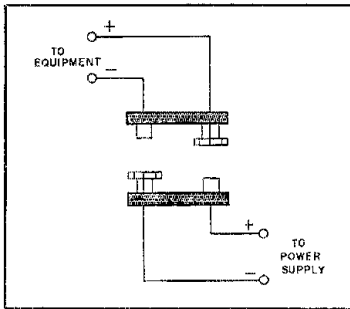

Fig. 3 — Tops from old 9-V transistor-radio batteries can be an inexpensive source of polarized power connectors.
□ I have been using the top connectors from old 9-V transistor-radio batteries as inexpensive polarized power connectors. After removing the top from a battery, I solder the power leads from the equipment to the connector. Another connector is used on the leads from the power supply. Be careful to maintain the correct polarity. (Positive and negative leads go to the opposite sides of the connector compared to the one on the equipment. See Fig. 3.)